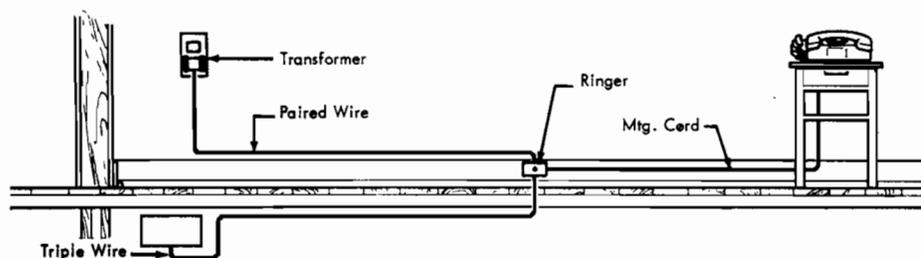

Fig. 3-1 DIAL LIGHT TRANSFORMER WIRING
3.3 Typical installation arrangements for a dial light type of telephone are shown in Fig. 3-1. Due to the low voltage operation of the dial light it is essential that the resistance of the wiring between the transformer and the telephone instrument is kept as low as possible to avoid excessive power loss. It is recommended that the length of station wiring between the transformer and the telephone should not be more than 150 feet. Also, mounting cords longer than six feet should not be used. Wherever possible the transformer should be located close to the ringer or terminal block.